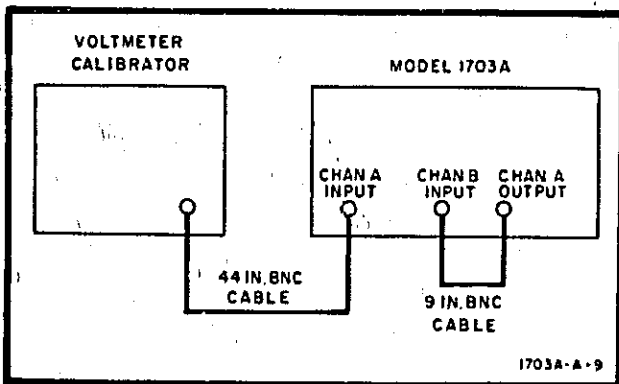

Figure 5-7. Cascaded Amplifier Gain Test Setup
- a. Set instruments up as shown in figure 5-7.